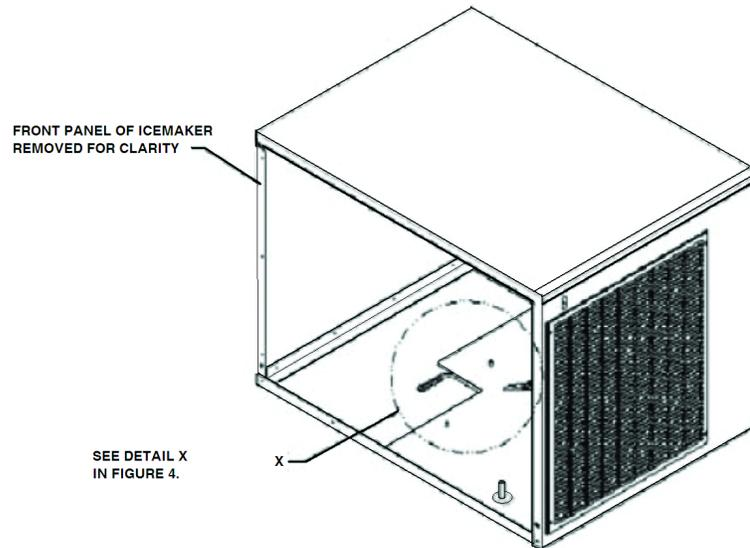
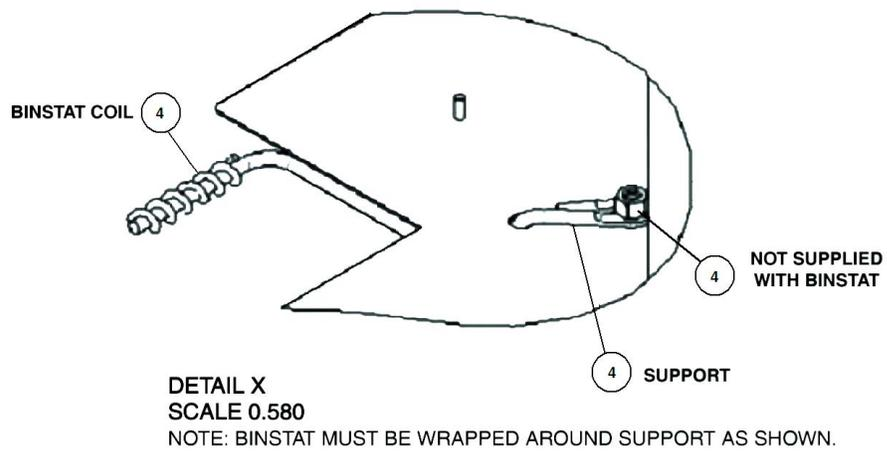

Figure 3. Bin Stat
Figure 4. Detail X
7. Install the brackets (item 5) on the rear corners of the ice maker, using the brackets as a template. Use care not to drill into any ice maker components (condenser, tubing, etc.) or into the ice hopper. Be sure to overlap the lid assembly with the brackets, installing screws in both the lid assembly and ice maker.
8. Install the wireform bracket supplied with the bin-stat kit (item 4) through the 5/8" diameter hole in the bottom of the ice maker, wrapping the eye of the wireform over the stud near the hole in the ice maker and secure with the 8-32 nut provided (Figure 3. and Figure 4.) Feed the bin-stat cap tube through the hole to the end of the wireform bracket and wrap the tube around the end of the bracket several times, insuring that the tube is secure.